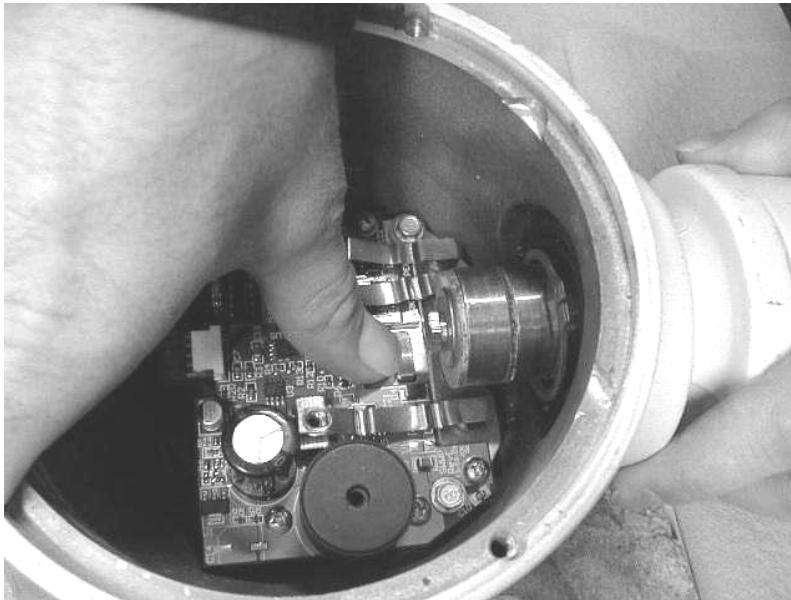

Fig. 7
27. Ensure that each brush properly operates in its brush holder prior to inserting the yaw shaft. Next, partially insert the yaw shaft assembly into the bearing hole. **Place the external snap ring just over the slip rings of the yaw shaft prior to setting the brushes.** While holding each brush in its respective guide, insert the yaw shaft into the hole the rest of the way. See Fig. 7. Secure one brush at a time as the yaw shaft is inserted. A rubber mallet may be necessary to tap the yaw shaft in place once all of the brushes are completely seated. Repeat the same operation with each brush until the yaw shaft is fully seated. Use caution with the brushes, they are brittle and may break with too much force applied. Ensure that the gaps between the slip rings do not “grab” the brushes while the yaw is being installed.